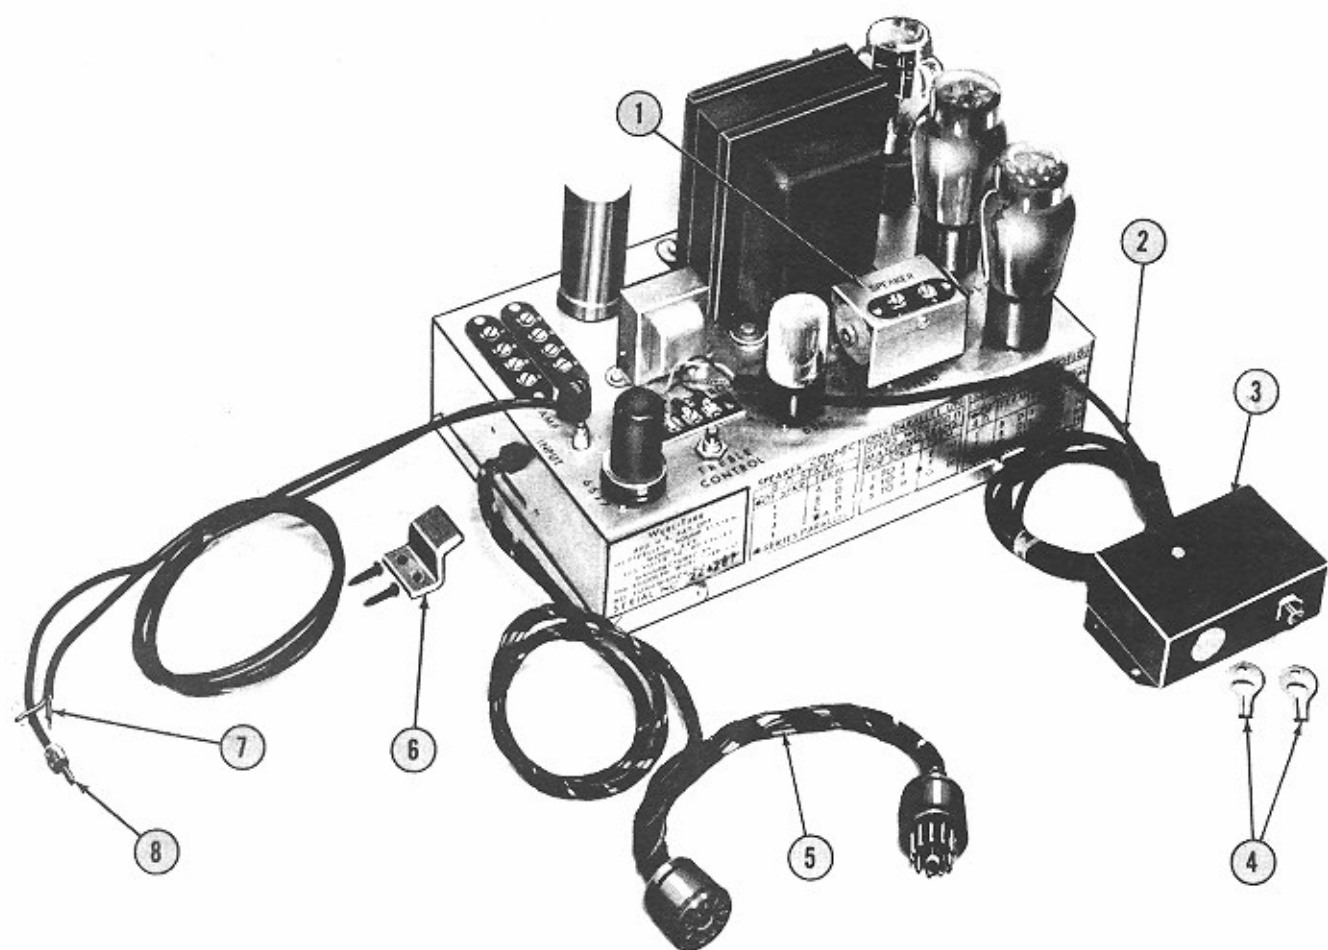

Fig. 107. MODEL 231 AUXILIARY AMPLIFIER EQUIPMENT
f. Should additional sound distribution be required, the Model 530 amplifier is provided with an auxiliary amplifier output socket which is not governed by the phonograph volume control but does have the advantage of the automatic level control. The Model 231 (Part No. 66198) consisting of a Model 229 H.F. Auxiliary Amplifier, separate volume control, input cables, and adapter cable for attachment to the Model 530 amplifier. (See Fig. 107). The Model 229 H.F. Auxiliary Amplifier supplies an additional 20 watts of power output which is independently controlled by its own volume control which may be installed at the phonograph or at a remote station.